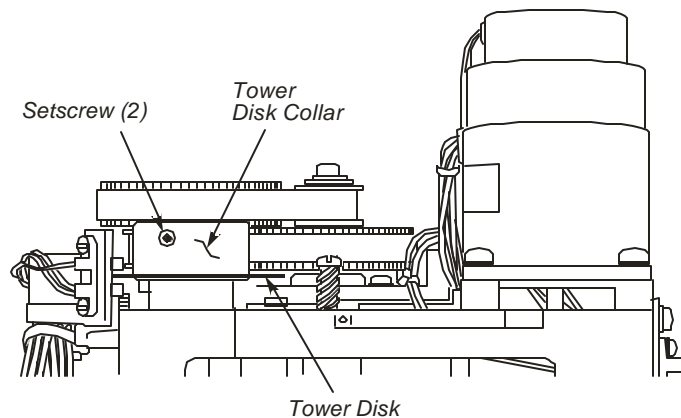

Figure 6- 15 Location of Tower Disk Collar Setscrews
1. Loosen the two setscrews on the tower disk collar (see Figure 6- 15).